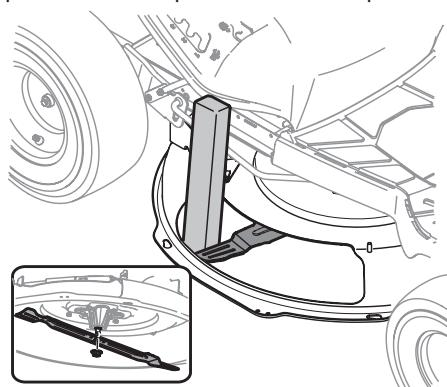

Figure 23
- Using a block of wood or 2 x 4, insert it into the deck opening and rotate the blade around until it wedges the wood between the deck opening and the cutting blade, as shown in Figure 23.